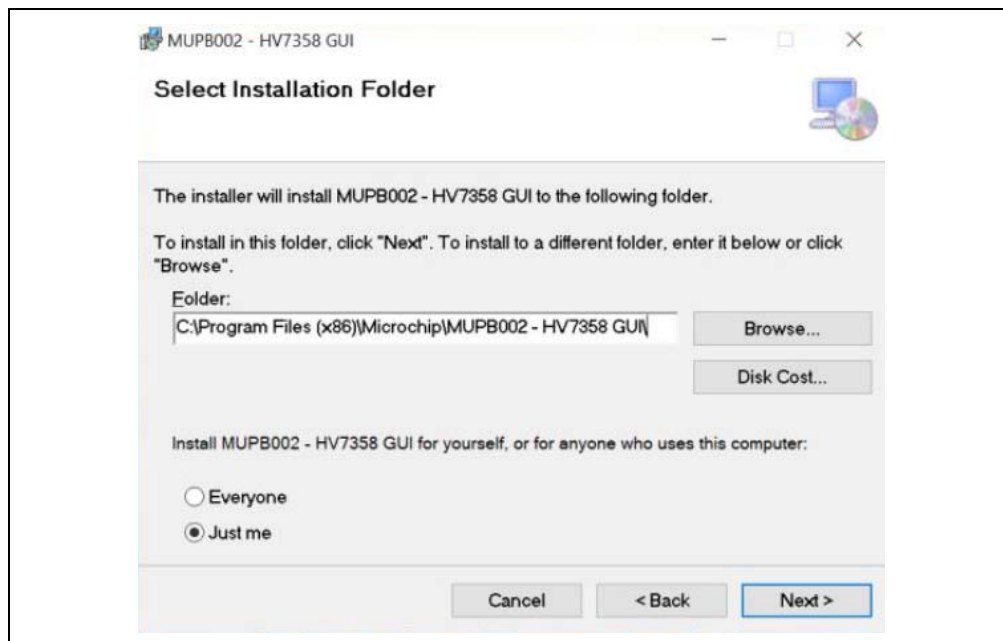

FIGURE 2-12: *Installation Folder.*
- The next window, shown in Figure 2-12, sets the Select Installation Folder. The default folder is shown. A different folder may also be specified.